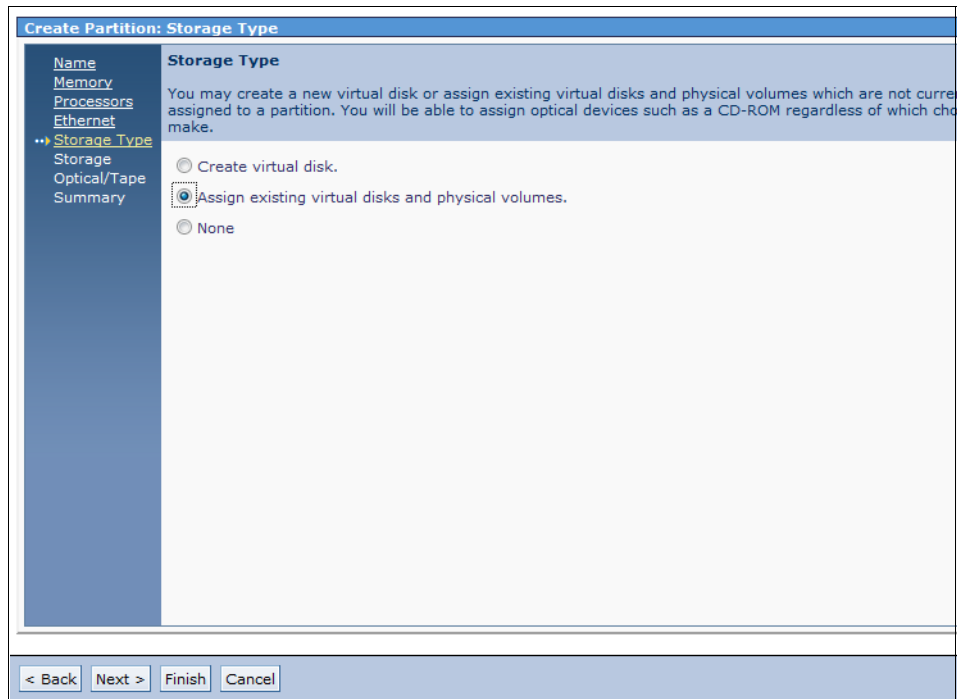

Figure 8-69 IBM Create Partition Storage Type window
7. The Storage Type window that is shown in Figure 8-69 allows for the creation of a virtual disk, assignment of an existing virtual disk (logical volume), or physical volume (SAN LUN or physical drive), or to not make any assignment. Complete the following steps in the Storage Type window: